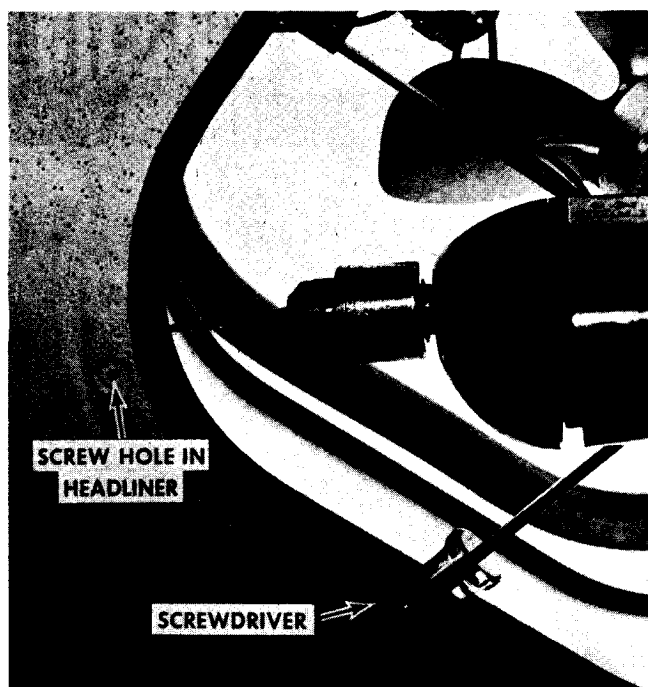
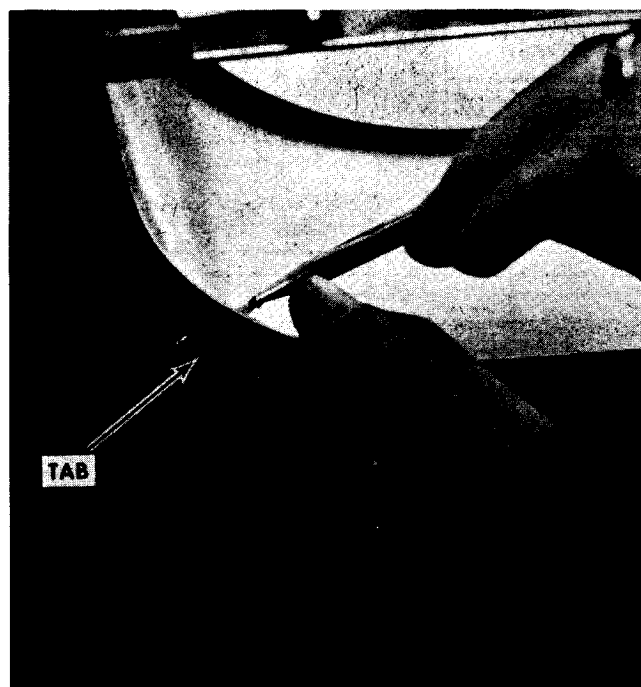

Figure 3
Figure 4
3. Drill an 1/8" hole in each corner of the frame so that it lines up with the hole in the headliner approximately 1/2" up the side from the bottom flange. (Figure 3)
4. Using blocks or screw driver handles (Figure 3) hold the headliner away from the vent frame. Mark each tab for drilling. (Figure 4)